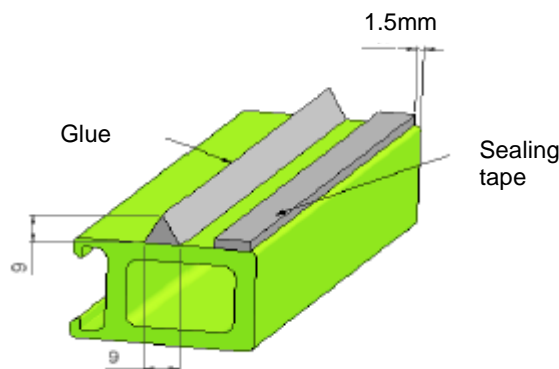

Figure 4: Applying sealing tape
7.5. Position glass onto the frame. Ventura logo according to figure 5 and 6. When the panel is single glass, position the glass 2mm from the top (decisive, e.g. lock) as shown in figure 4. When the panel is double glass, position the glass 2mm from the bottom (decisive, e.g. lock), as shown in figure 5.